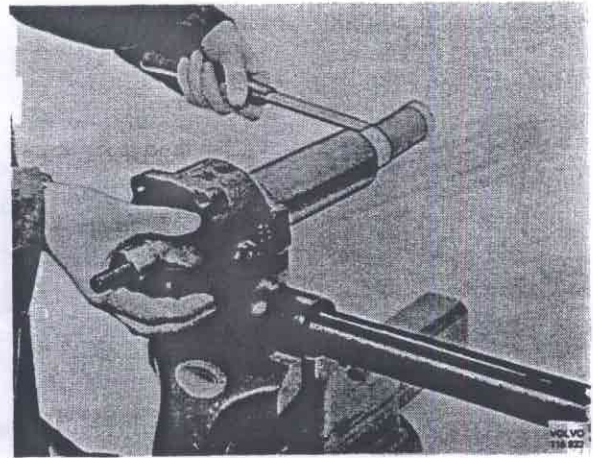
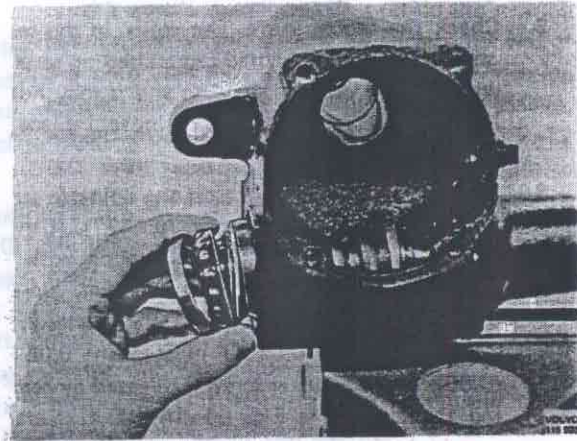

Fig. 64-13. Removing the sector shaft
Fig. 64-14. Removing the worm
5. Carefully tap out the sector shaft (13) with a plastic mallet, see Fig. 64-13.
6. Remove the lower cover (15) at the end of the steering column and take care of the spacer ring (16) and shims (3).
7. Carefully knock out the steering column with a plastic mallet. Take hold of the worm's lower bearing race and bearing, see Fig. 64-14, and pluck the upper bearing (7) out of the housing.